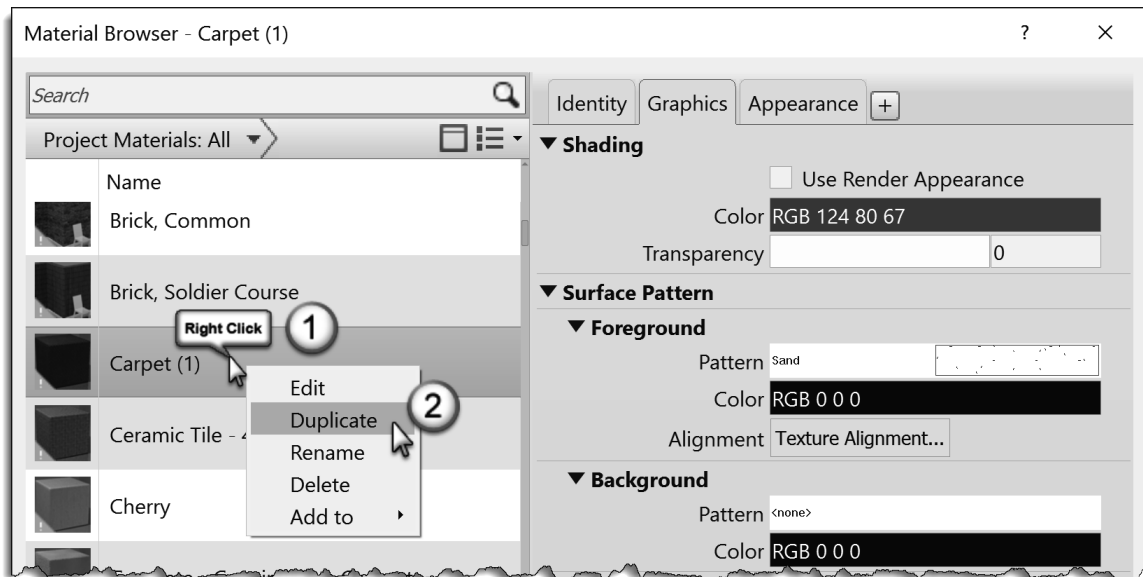

FIGURE 4-3.2 Duplicating a material
4. In the *Project Materials* list, select *Carpet (1)*.
5. Right-click *Carpet (1)* and then click the *Duplicate* in the pop-up menu (Figure 4-3.2).
You now have an image file which represents the specified carpet style available on your computer or network. You will assign this image to the *Appearance* asset. But first you will duplicate the *Appearance* asset because the one named “Red” (Figure 4-3.2) is not applicable.